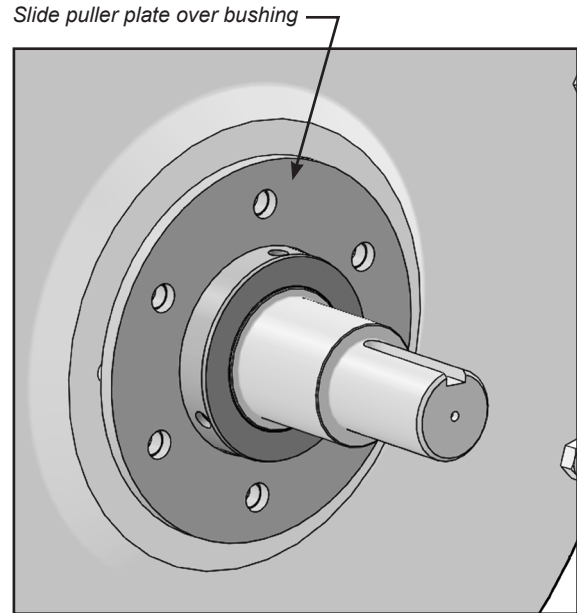

FIGURE 26
14. Slide the puller plate over the bushing with the weld nuts facing towards endplate (Figure 26).